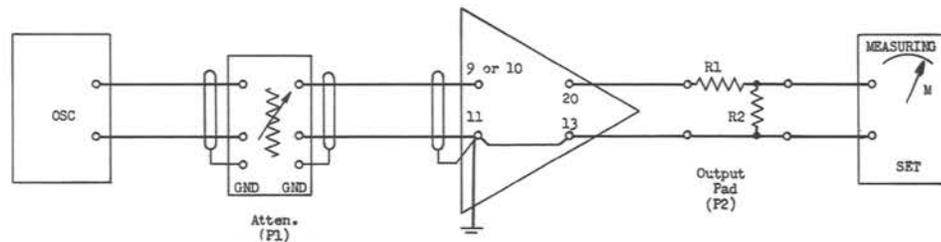
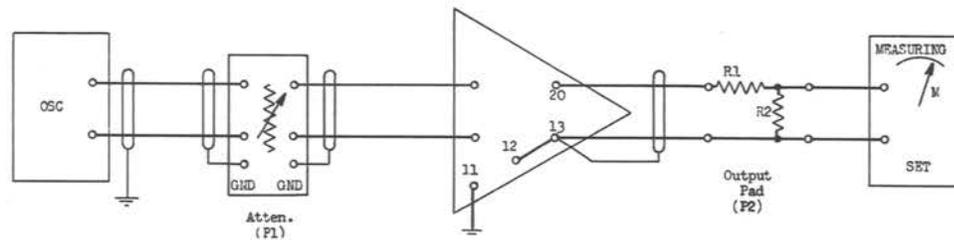

Fig. 2 - 142A Amplifier - Gain and Gain Frequency Testing Arrangement
Fig. 3 - 142B, 142C, 142D Amplifier - Gain and Gain Frequency Testing Arrangement
2.12 Set up the testing arrangements indicated in Figs. 2 and 3, using the input terminals for the particular input arrangement of the amplifier under test. Fig. 2 shows the shielding and grounding employed in the arrangement for gain tests on the 142A amplifier. Fig. 3 shows the arrangement for testing the B, C and D models. Somewhat more shielding and grounding is employed in Fig. 3 because of the higher gains in these amplifiers, particularly in the 142B and 142D models. The gain of the amplifier is indicated by the algebraic sum of the attenuator loss, output pad loss and the dial and meter readings on the measuring set.